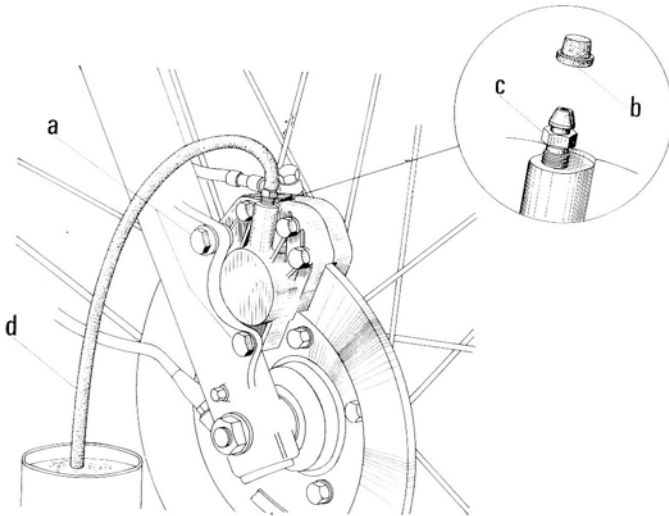

Fig. 45
Unscrew the bolts « a » fig. 45 securing brake caliper to the fork, remove both split pins securing the pads, replace the latter with the new ones, fit again the split pins then secure the caliper to the fork and lock both bolts « a » to the torque carried out on the table at page 39.
b) Remove the rubber cap «b» from the bleeder screw «c» fig. 45, apply on the same a transparent flexible pipe «d» by introducing the other end in a container with oil, unloose the bleeder screw «c» then pull the lever on the handlebars with short time intervals between a pumping and the other; repeat the operation until from bleeder tube oil without air bubbles comes out, then pull completely the lever, lock the pipe union «c», leave the lever, take off the pipe «d» and fit again the cap.